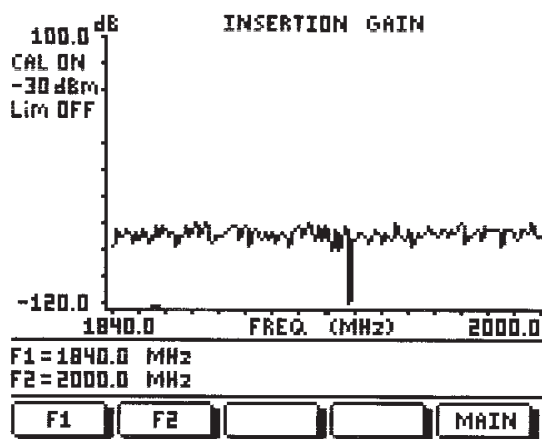

Figure 3-13. Measurement Display before Amplifier Connection
Step 16. Disconnect the 7/16(f) adapter. The resulting display should be similar to Figure 3-13.